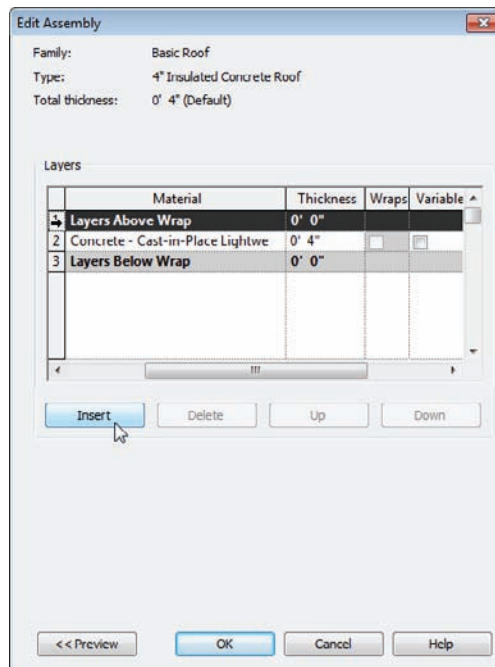

FIGURE 7.5 Changing the material and adding a layer
8. Change the structure Thickness to 4" (100mm), as shown in Figure 7.5.
9. Insert a new layer above the core boundary. (You do this by clicking the number on the left side of the Layers Above Wrap row, and clicking the Insert button below the Layers section, as shown in Figure 7.5.)